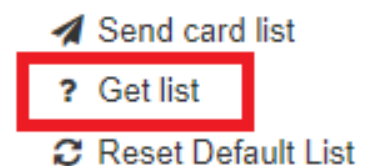

Figure 9.6
5. In the socket panel, click the  "Card List Management" button and then the "Request List Version" button (see figure 9.6).